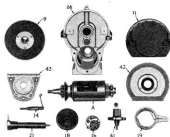

Fig. 18
Type U-6 Magneto: The construction of the type U-6 magneto varies from the type U-4 mainly in that the distributor plate is mounted on the interrupter end instead of directly above the collector, and that the jump-spark type of distributor plate is used. The type U-6 magneto is shown completely disassembled in Figure 18.
1. Remove the waterproof hood (22 Figs. 18 and 20) and the collector brush holder (41 Figs. 18 and 20).
7. Remove the distributor gear (9 Fig. 18), and armature (A Fig. 18).